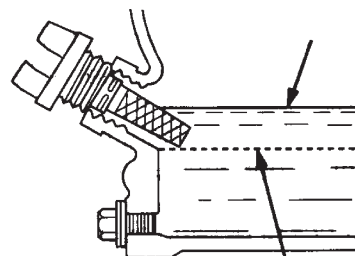

Figure 16. Engine Oil Dipstick (Oil Level)
4. If the oil level is low (Figure 16), fill to the edge of the oil filler hole with the recommended oil type (Table 4). Maximum oil capacity is 0.48 quarts (.45 liters)